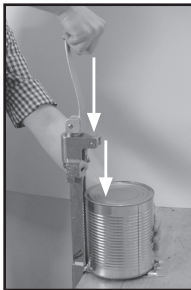

Figure 4
3. Grip the handle firmly and thrust down onto the can to puncture it. (Figure 4)